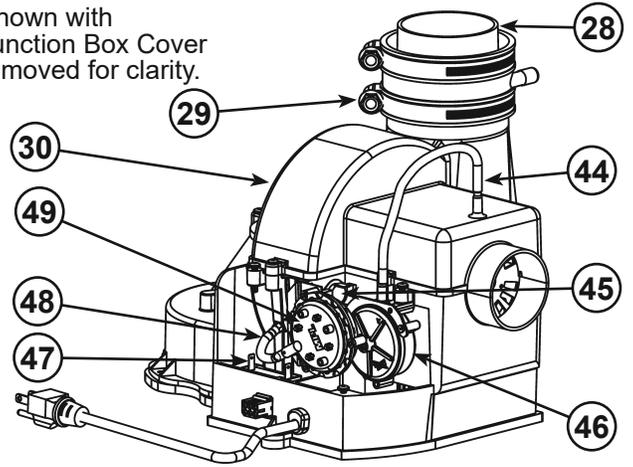

Figure 53.
- 28 \*\*\*\*Rubber Coupling (see Figure 5) (see also **Figure 53**)
- 29 Gear Clamp (see Figure 5) (see also **Figure 53**)
- 30 \*\*\*Blower with Power Cord (see Figure 5) (see also **Figure 53**)
- 44 Air Tubing (Intake) (see Figure 5) (see also **Figure 53**)
- 45 Blower High Limit Switch (see Figure 5) (see Figure 53)
- 46 Intake Air Pressure Switch (NC) (inside box) (see Figure 5) (see also **Figure 53**)
- 47 Capacitor (see Figure 5) (see also **Figure 53**)
- 48 Air Tubing (Exhaust) (see Figure 5) (see also **Figure 53**)
- 49 Exhaust Air Pressure Switch (NO) (inside box) (see Figure 5) (see also **Figure 53**)